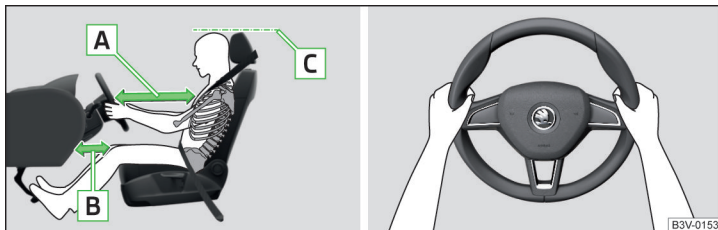

Fig. 15 Correct seated position for the driver/correct steering wheel position
- ✓ For vehicles equipped with driver knee airbags, adjust the driver's seat in a forward/back direction so that there is a gap of at least 6 cm between the legs and the dashboard in the vicinity of the knee airbag » [Fig. 15 - \[B\]](#).
- ✓ Adjust the steering wheel so that the distance between the steering wheel and your chest is at least 25 cm » [Fig. 15 - \[A\]](#).
- ✓ Adjust the headrest so that the top edge of the headrest is at the same level as the upper part of your head (not for seats with integrated headrests) » [Fig. 15 - \[C\]](#).
- When driving, hold the steering wheel with both hands firmly on the outer edge in the "9 o'clock" and "3 o'clock" position » Fig. 15. Never hold the steering wheel in the "12 o'clock" position or in any other way (e.g. in the middle, inner edge of the steering wheel or similar). Otherwise, in the event of airbag deployment, you could suffer serious injury to the arms, hands and head.
- ✓ Adjust the headrests so that the top edge of the headrest is at the same level as the upper part of your head » Fig. 15 on page 20 - **C** (not for seats with integrated headrests).
- ✓ Adjust the headrests so that the top edge of the headrest is at the same level as the upper part of the head » Fig. 15 on page 20 - **C**.